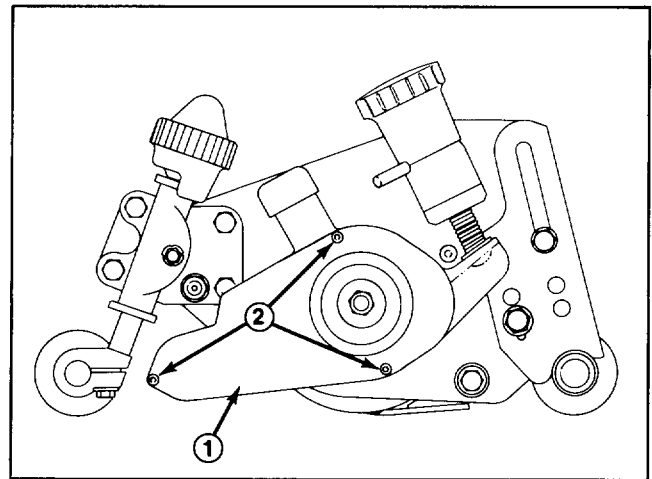
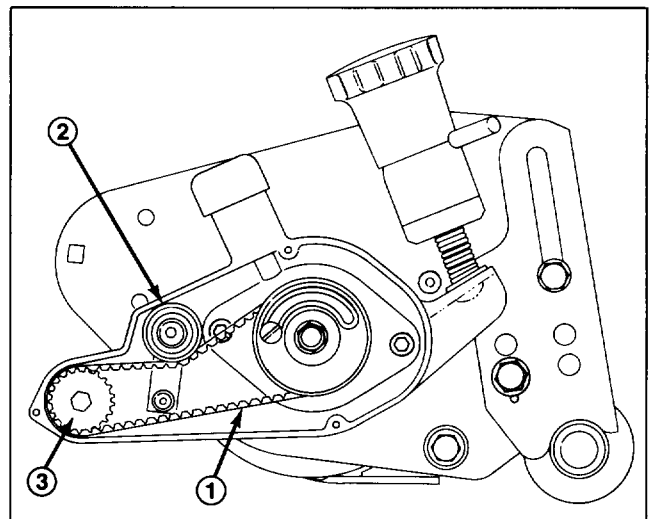

Figure 16
Figure 17
1. Remove the left side grooming reel housing cover (Fig. 16). Loosen the idler pulley and remove the drive belt (Fig. 17).
2. Remove the grooming reel drive pulley (left hand thread) (Fig. 17). then, remove the locknut securing the grooming reel to the right housing bracket.
Torque the drive pulley and locknut (left hand thread) to 29-35 ft-lb (Fig. 17). Check drive belt tension. There should be 1/4 inch deflection when a force of 5-10 lb is applied midway between the drive and driven pulleys (Fig. 17). To adjust belt tension, loosen the backside idler pivot screw and pivot the idler to achieve proper tension. Torque the pivot screw to 7-10 ft-lb.